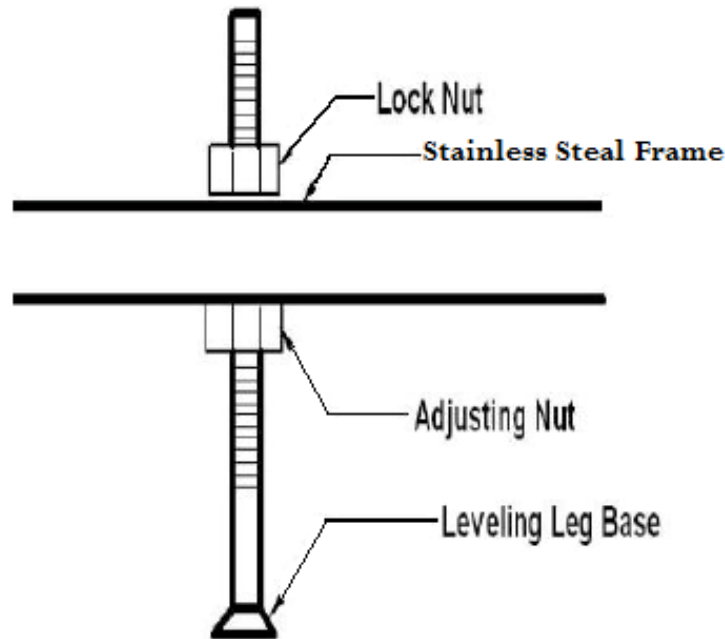

Fig 1C
F) Use the 6 leveling legs provided to adjust height and achieve uniform leveling of the tub. (Please see Fig 1C)